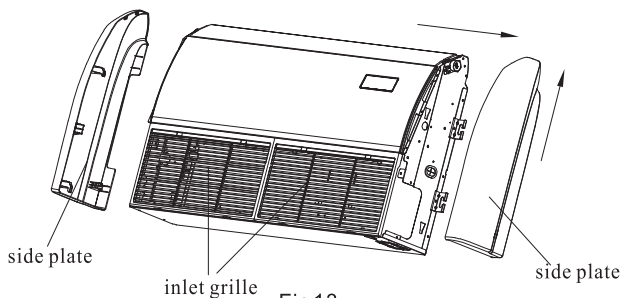

Fig 13
- Remove the side board. (Refer to Fig13)